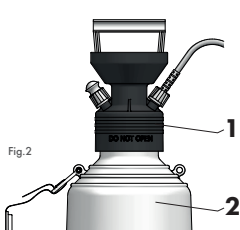

Fig. 2
Do not remove the head (fig. 2/pos. 1) from the tank (fig. 2/pos. 2).